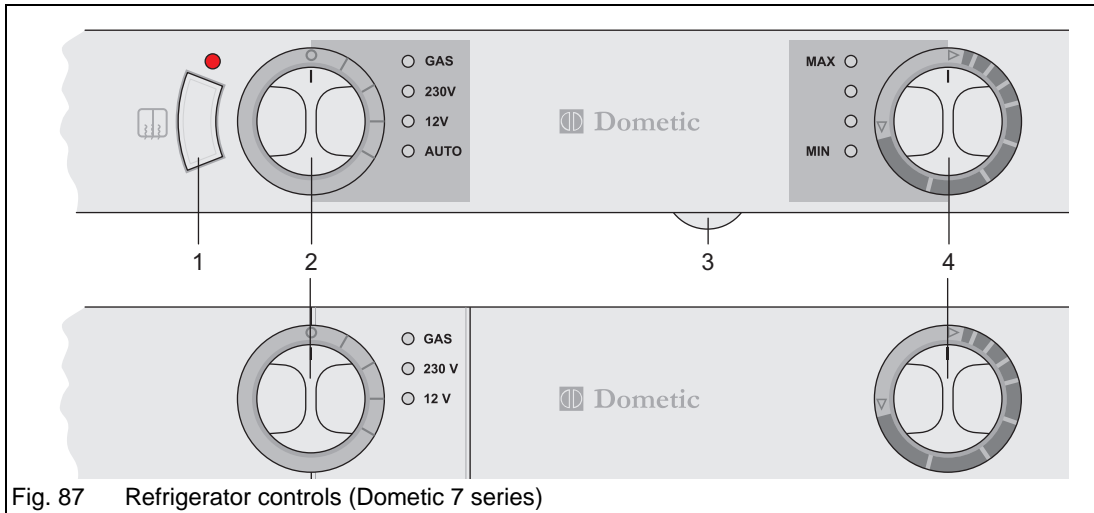

Fig. 87 Refrigerator controls (Dometic 7 series)
- ➔ Switch on the frame heater with the switch (Fig. 87/1).